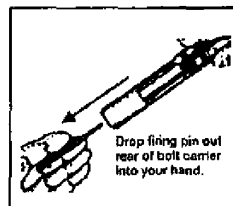

Figure 071-311-2025-14. Removing the firing pin
m. Remove the bolt cam pin by turning it one-quarter turn and lifting it out (figure 071-311-2025-15).